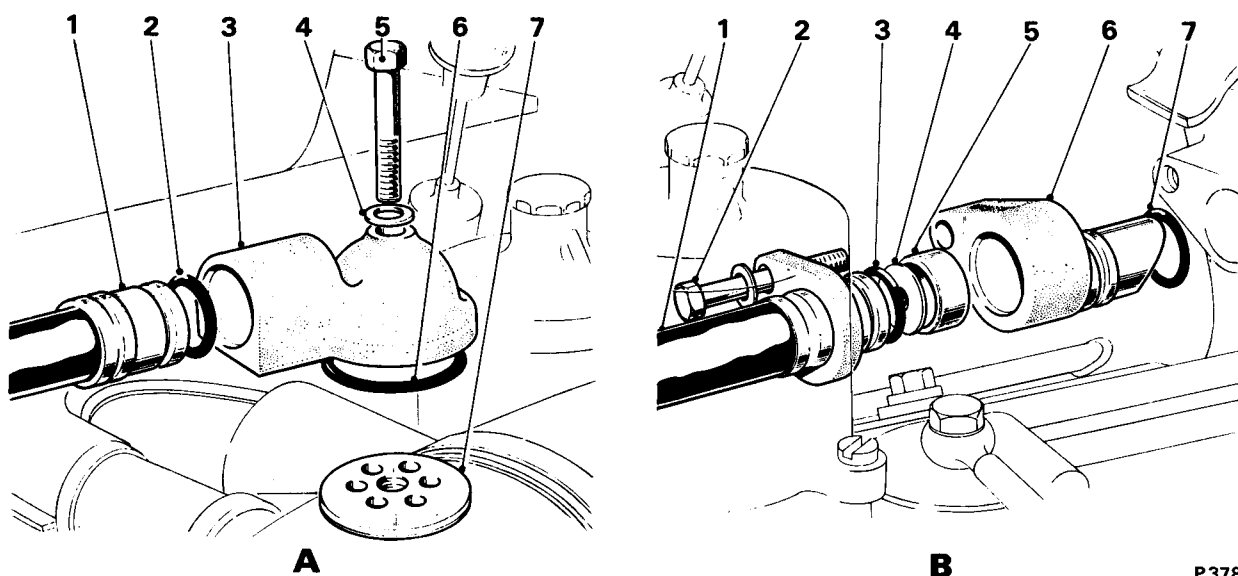

FIG. 14 EXPLODED VIEW OF CRANKCASE EMISSION CONTROL PIPE
Crankcase emissions are controlled by a recirculatory closed breather system (see Fig. 14).
4. Wash the flame trap assembly in clean petrol, then dry with a high pressure air line. The flame trap assembly consists of 3 gauzes crimped together as shown in Figure 14.